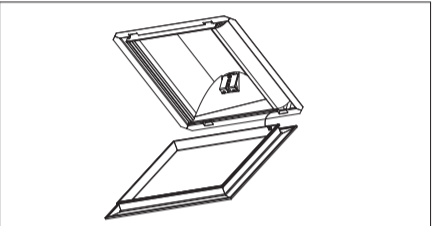

Fig. 17
4. Bring fascia up to unit and connect the earthing wire. Clip fascia into the unit. Fig 17.
8. Bring fascia up to unit and connect the earthing wire (models 34101 & 34102). Clip fascia into the unit. Fig 17.